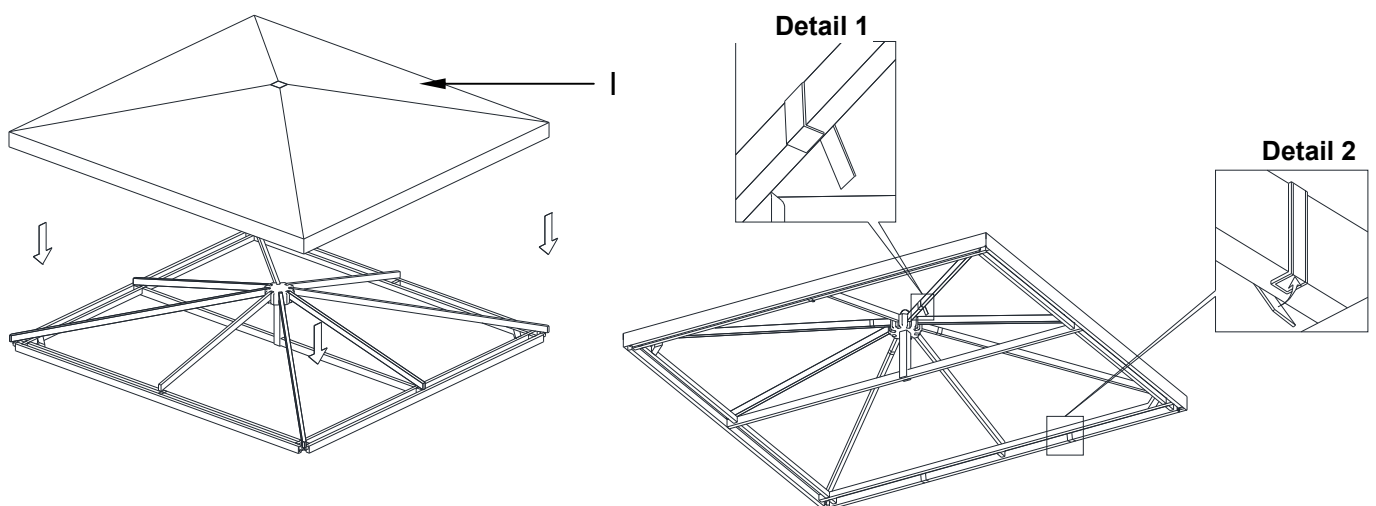

Fig. 9
9. Wrap the Canopy (I) to the Top Frame assembly. Pull the straps located under the canopy on all edges and secure the Velcro through the frames. (See **Fig. 9**) Detail 1 & 2.